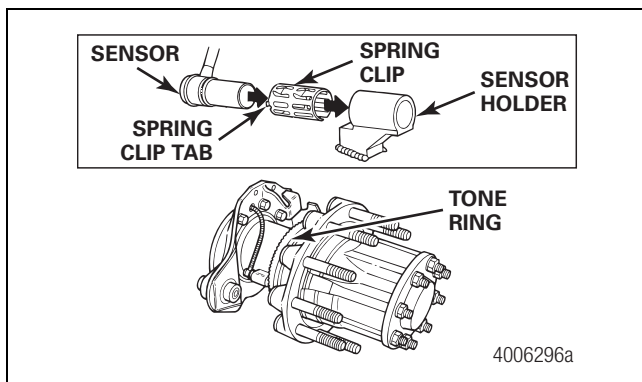

Figure 28
- Push the sensor completely into the sensor spring clip until it contacts the tone ring. Figure 28.